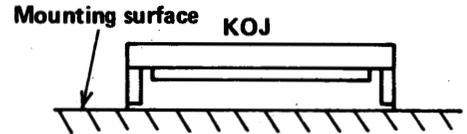

Fig. 8.3.2 Horizontal Mounting
When the KOJ1U is used together with K65B/K68B extension base, install as shown in Fig. 8.3.3. When the panel door is on the left, the KOJ1U can be mounted on the door, and the extension base on the panel. In this case, cable used is KOJ-62CBL2 in 1000 mm length. In the case of (2) Series Mounting, side mounting may be applied to the basic unit. Horizontal mounting shown in Fig. 8.3.2 is not applicable to the extension base. Side mounting of input/output unit, etc. is not possible, either.